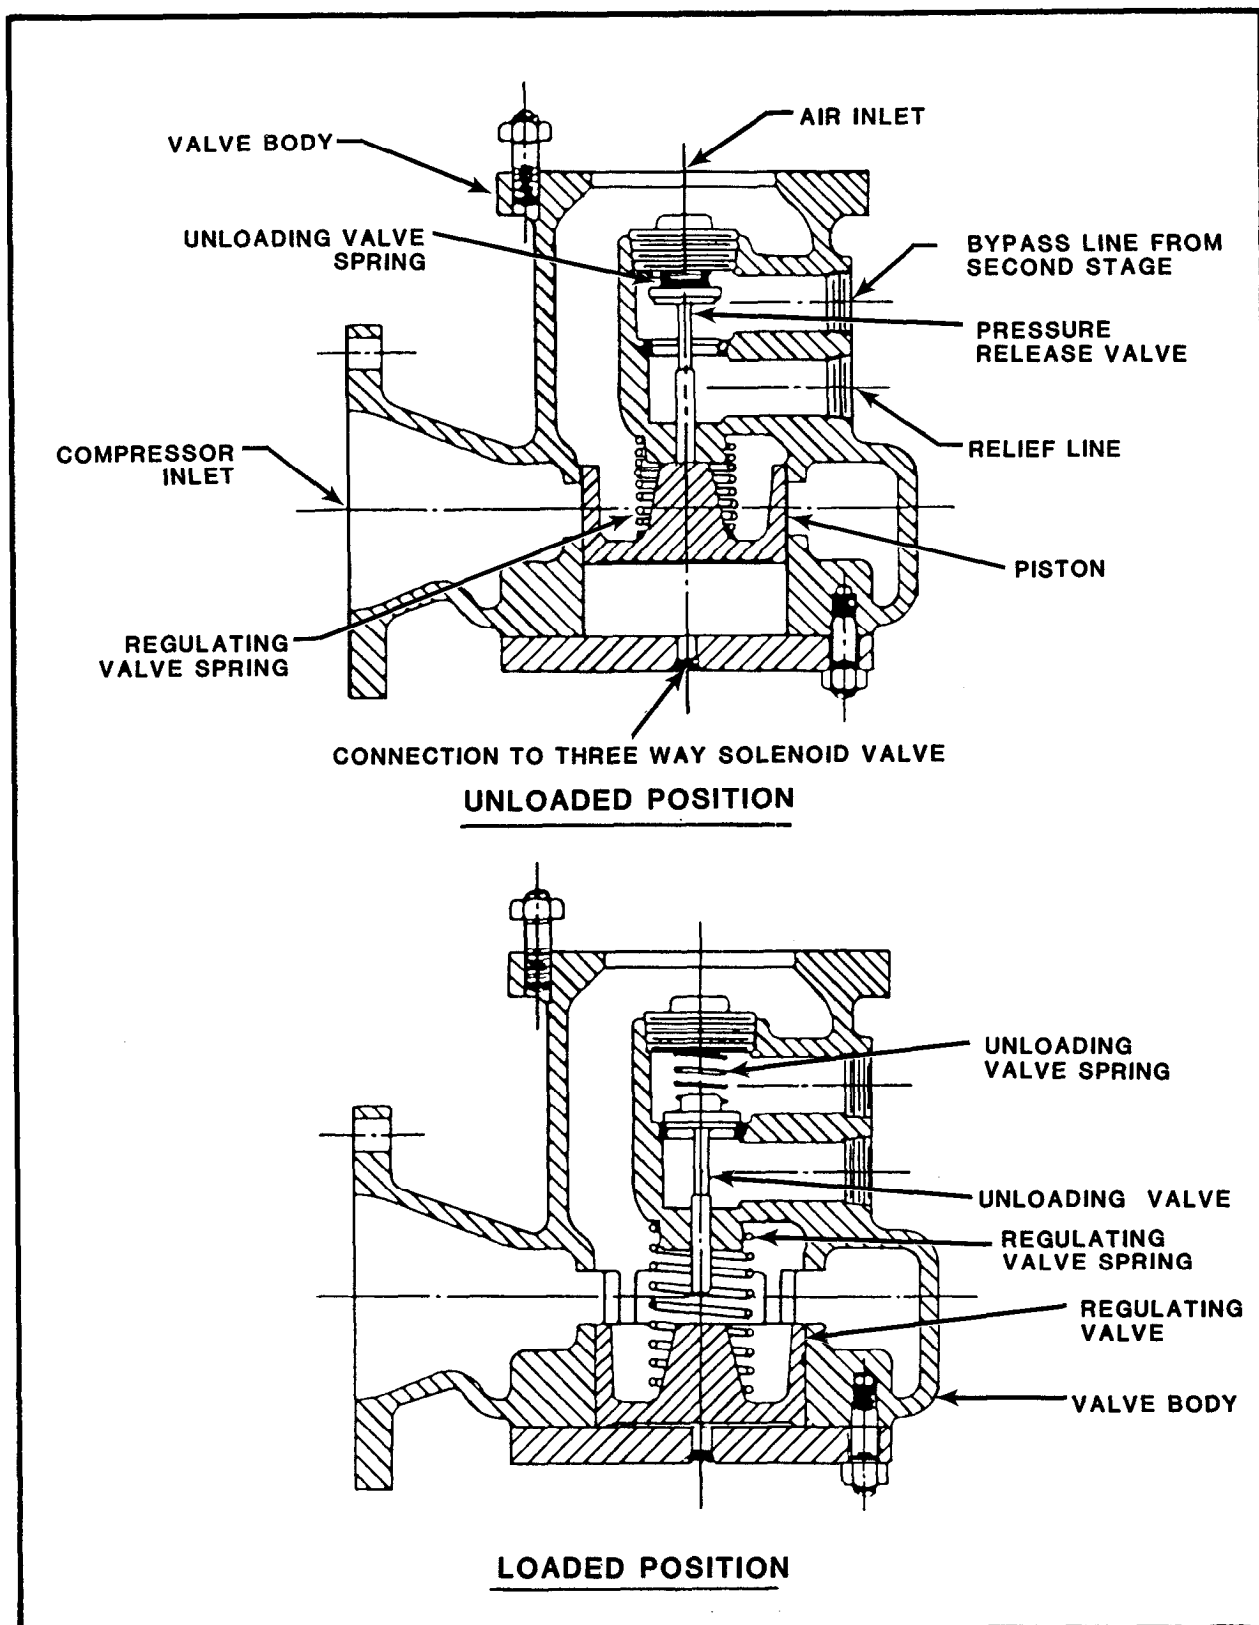

FIGURE 5-7. Intake Unloader for Rotary Sliding Vane Compressor
1.1.3.3 Intake Unloaders. Intake unloading consists of an automatic valve located at the compressor suction. This valve closes off the compressor intake, thereby preventing the compressor from taking in air. The intake unloader (figure 5-7) incorporates two valves in one body, an air piston-operated inlet valve and a pressure release valve. When the compressor is delivering air, the inlet valve is in its normal open position and the release valve is closed. When receiver pressure builds up to the unloading pressure, a pressure switch deenergizes a three-way solenoid pilot valve which admits receiver pressure to the piston of the inlet valve. The piston rises, closing the inlet valve and opening the pressure release valve. The pressure release valve relieves air pressure from the portion of the compressor discharge line between the compressor and the discharge check valve. This permits unloaded operation of the compressor at atmospheric pressure. When receiver pressure drops to the lower setting of the pressure switch, the contacts close, energizing the solenoid pilot valve. This cuts off receiver pressure and vents the pressure in the unloader to atmosphere. The inlet valve is opened, permitting the compressor to load.